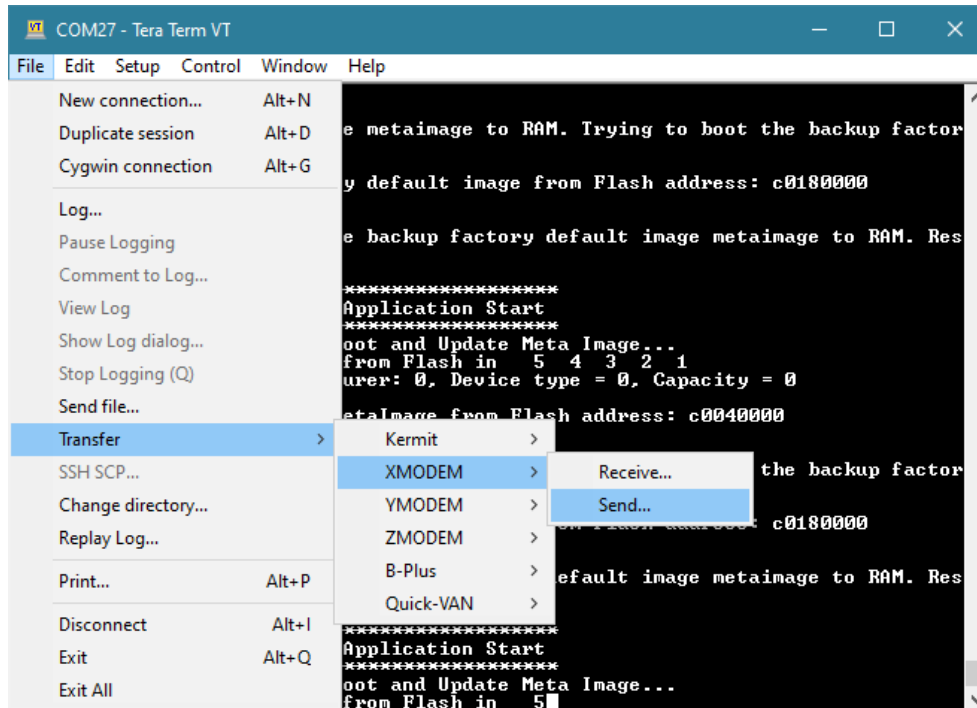

Figure 29. Initiating XMODEM Download with Tera Term
4. Initiate the XMODEM file transfer as shown in Figure 29 below.